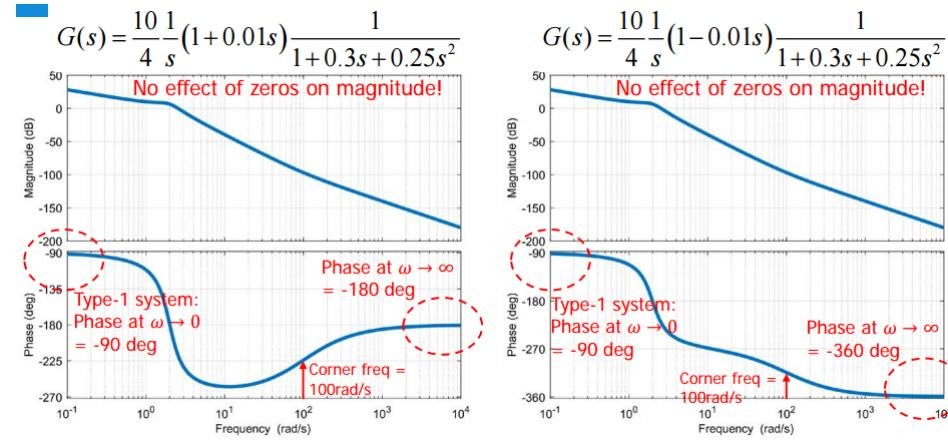

Figure 7.11: Effect of zero in the left-half plane vs. zero in the right-half plane.
- Thirdly, in figure 7.11, we see the effect of the location of the poles; specifically whether they are located in the right hand plane or the left hand plane. In the left part, there is a zero in the left hand plane (at $s = -100$). Since it's a type 1-system, the phase starts still at -90° , but we see that at a corner frequency of 100 rad/s, the phase suddenly increases again, as predicted by the second part of figure 7.8. However, when we the zero in the right half plane, at $s = 100$, we have an extra phase lag of 90° instead.